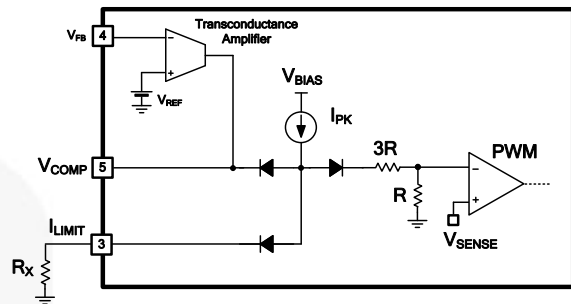

Figure 29. Current Limit Adjustment
As shown in Figure 29, the inverting input voltage of a PWM comparator that determines pulse-by-pulse current limit level is generated by the internal resistor R and current I_{PK} with a maximum value of 50 μA . When the external resistor R_X is connected between I_{LIMIT} and GND, I_{PK} current can be adjusted because the added R_X will be configured with internal resistor ($3R+R$) with total 46 k Ω in parallel and it will flow inversely proportional to R_X value connected. For example, if no resistor is connected, pulse-by-pulse current limit for MOSFET switching current will be the maximum level (300 mA). On the other hand, the minimum level can be set down to 70 mA by the R_X value that can be got from following shown in equation (1). Figure 30 shows the adjusted current limit according to the R_X .